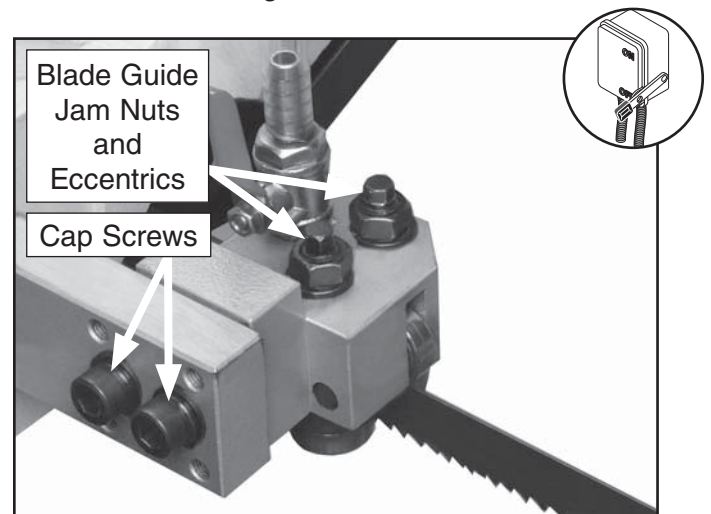

Figure 41. Blade guide adjustment locations.
5. Loosen the cap screws (**Figure 41**), and adjust the blade guide housing so the back of the blade slightly touches the bearing and the guide housing is not tilted.
7. Loosen the 14mm jam nuts and rotate the 7mm hex on top of the bearing eccentrics (**Figure 41**), and adjust the bearings against the side of the blade.